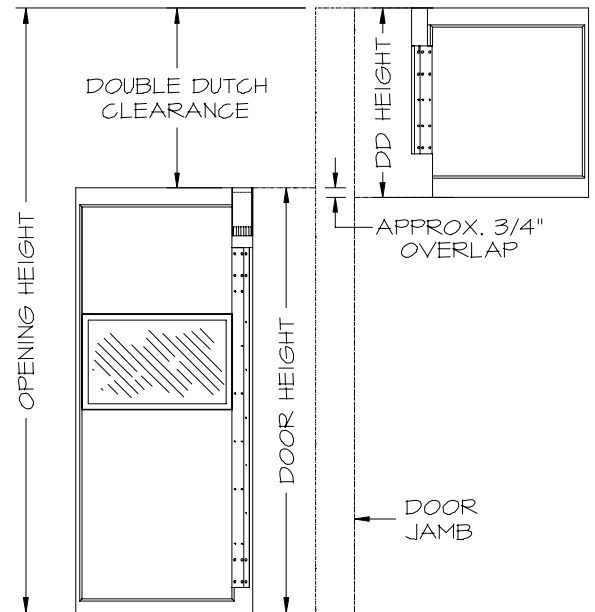

FIG. 12
- **Measure and mark down** from top of jamb (Figure 12).
- * **Measure and mark 4-7/8" down** from top of jamb along corner plumb line (Figure 12).
- * **Measure and mark 9-3/8" up** from overall Double Dutch height mark along plumb line (Figure 12).